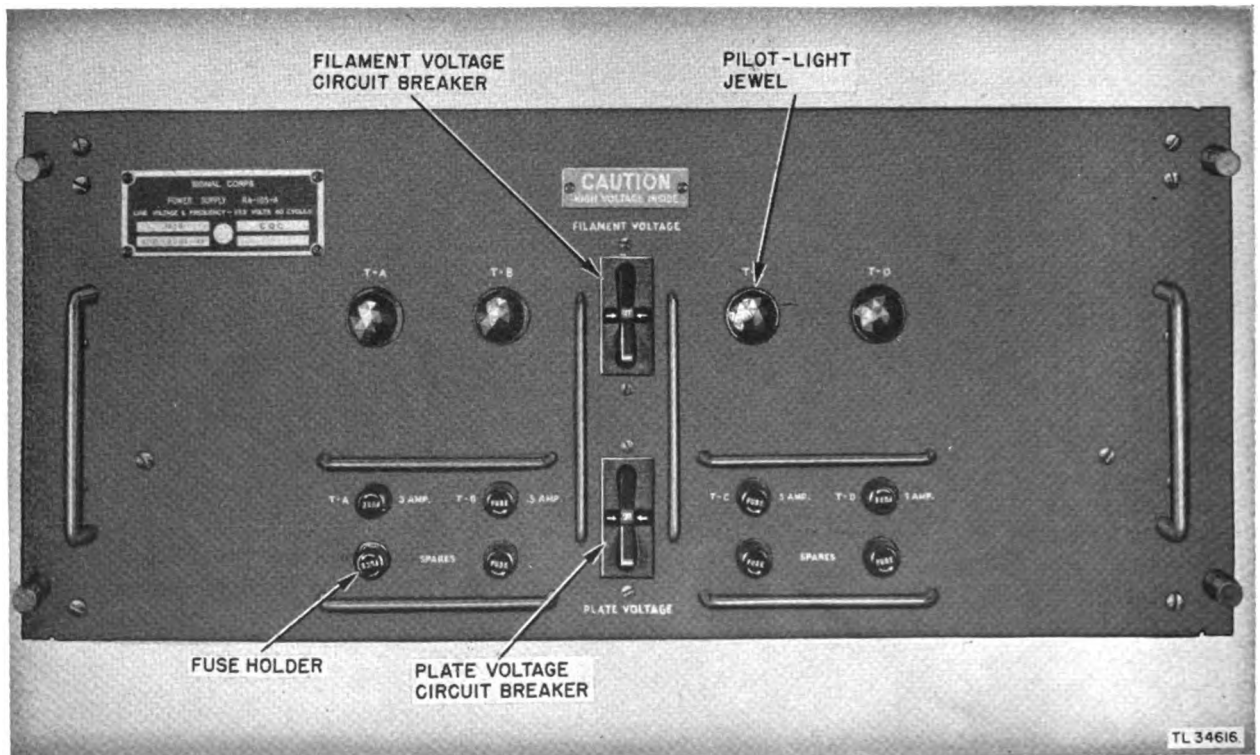

Figure 21. Power supply chassis—front panel.
- a. LOCATION (fig. 21).
- (1) The pilot-light jewels for general condition.
- (2) The fuse holders for—
- (3) The FILAMENT VOLTAGE and PLATE VOLTAGE circuit breakers for—